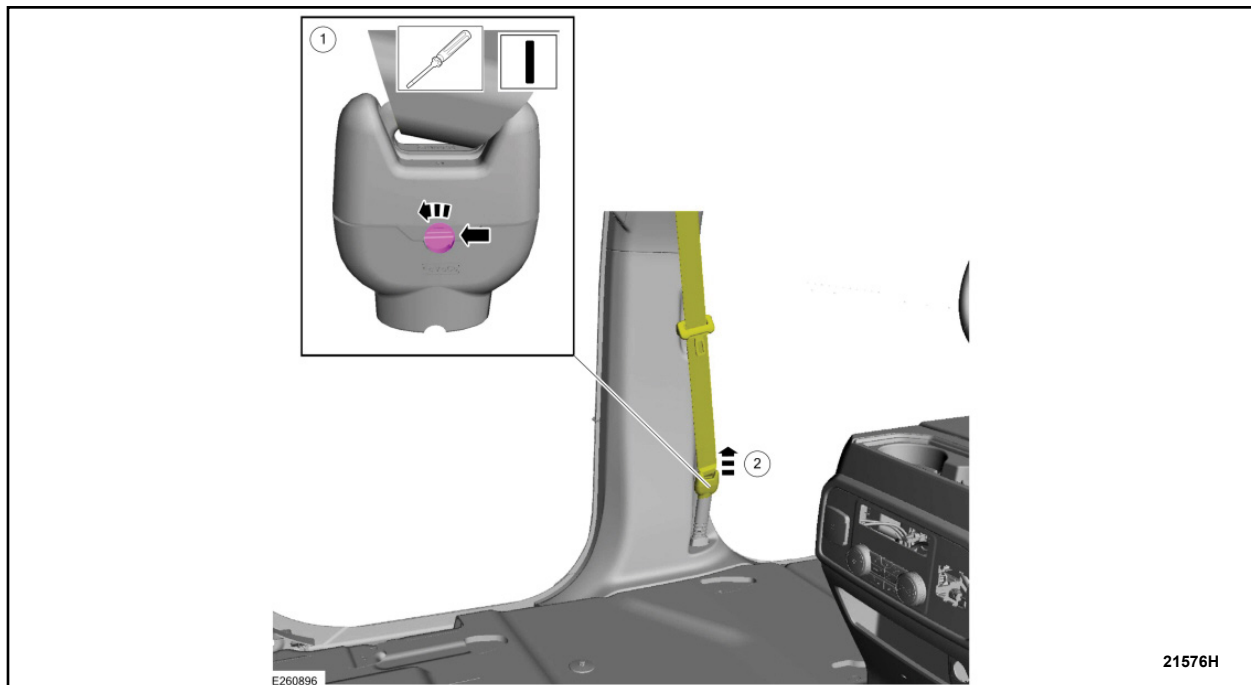

FIGURE 8
8. Press in on the release button and disconnect the front seatbelt retractor from the front seatbelt anchor pretensioner. See Figure 8.